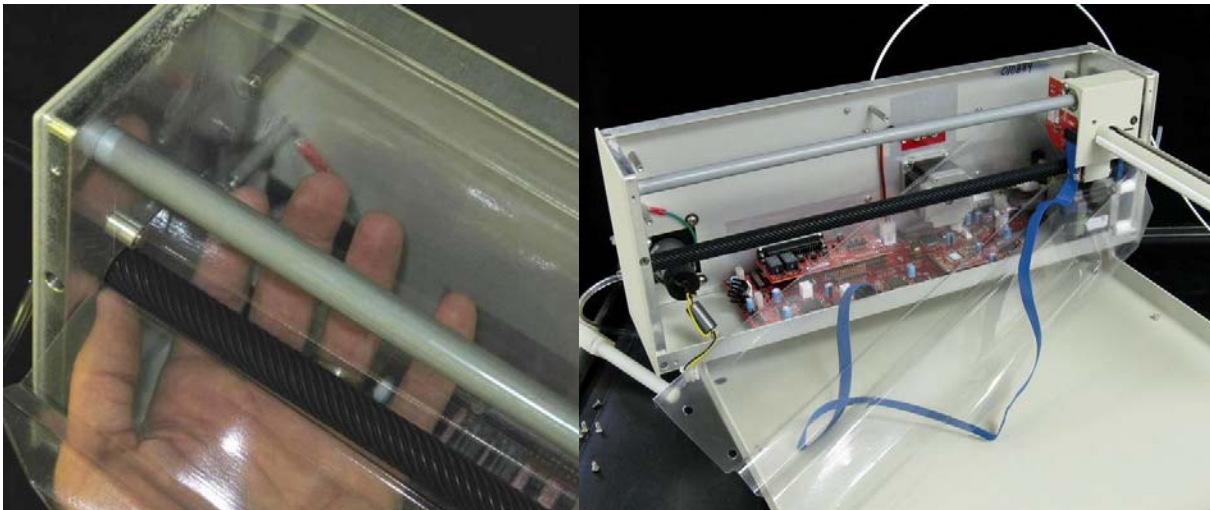

Figure 1-14. View of splashguard removal.
12. Remove the splashguard by pulling it out from one side. It may be necessary to reach under the guard and remove it from the support stand offs. See Figure 1-14.